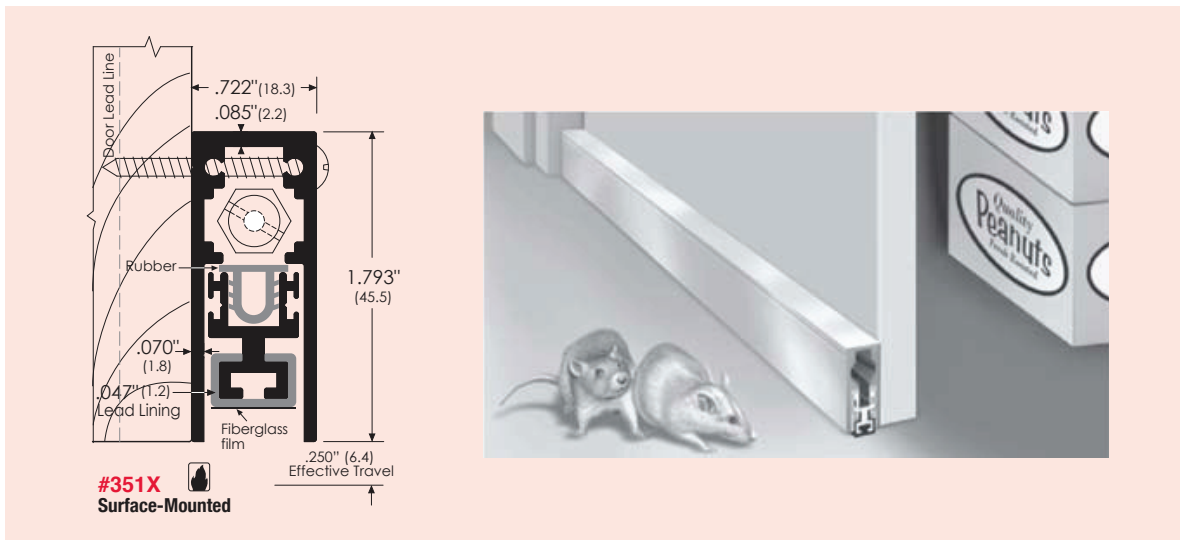

Figure 2: Replacing vulnerable neoprene or rubber, lead linings help protect automatic door bottoms from rodent damage in hospital kitchens and pantries.
- **Lead-lined automatic door bottoms for kitchens and pantries** (Figure 2): Available for use in surface-mounted, semi-mortised and concealed automatic door bottoms, lead linings can replace standard neoprene or rubber for protection against damage by rodents in food preparation and storage areas. (Lead-lined door bottoms can also be used for hospital x-ray rooms.)